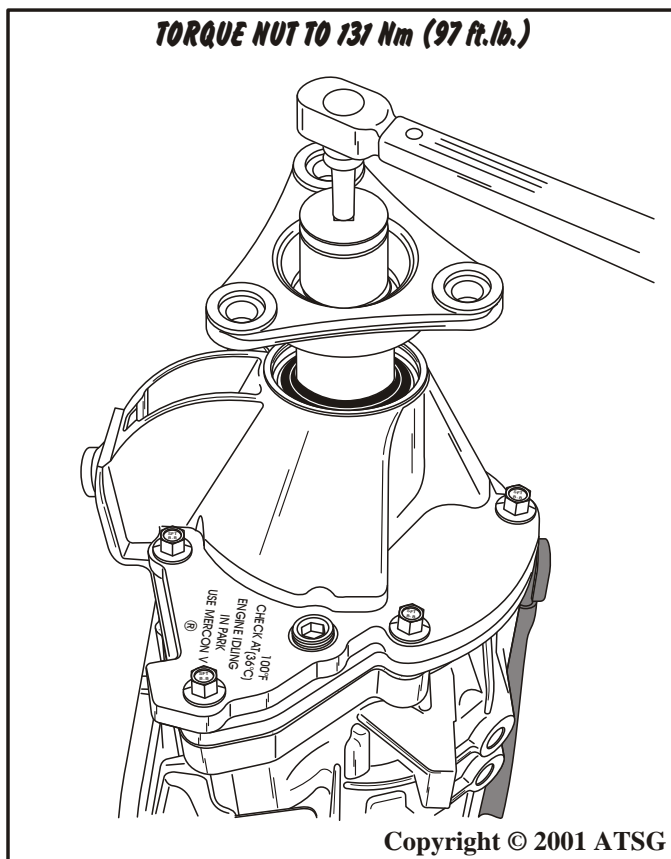

Figure 182
87. Install a **new** output flange retaining nut and torque to 131 Nm (97 ft.lb.), as shown in Figure 182.